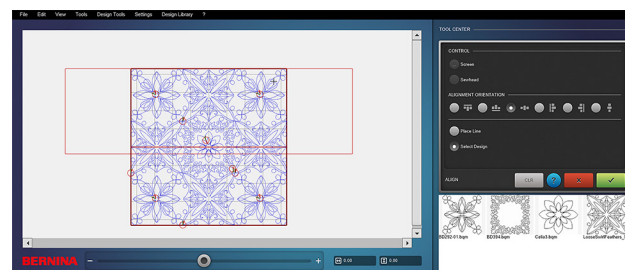

Fig. 81
11. Repeat this process selecting the Horizontal Center alignment option (Fig. 81).